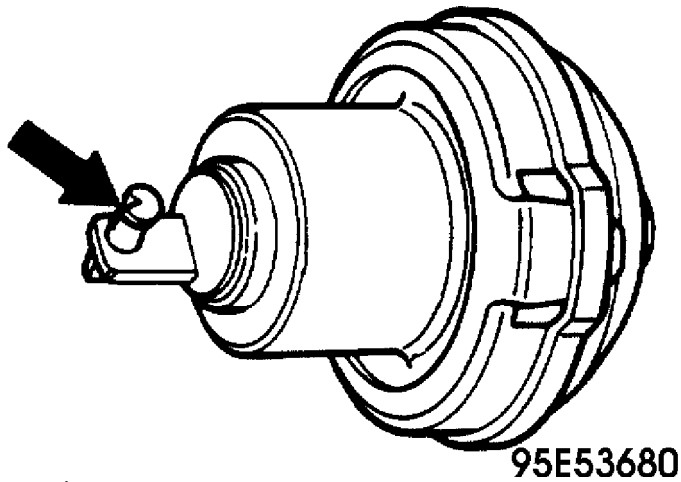

Fig. 6: Location Of Cracks In Servo End
- Inspect end of fresh air/recirculation servo for cracks, replace servo if damaged. See Fig. 6, (arrow).